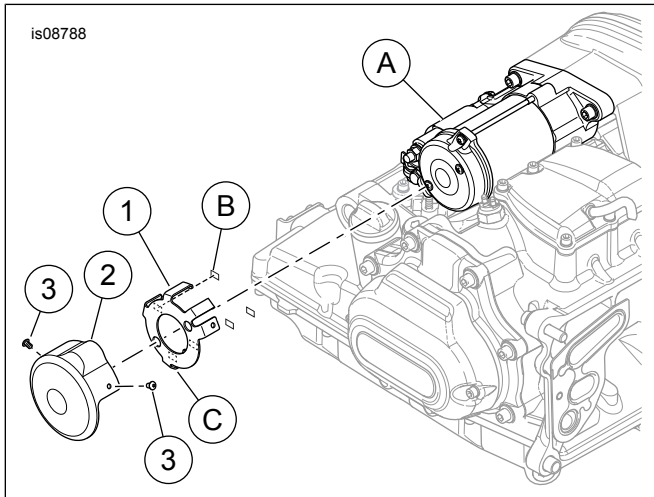

Figure 1. Service Parts, Touring Starter Cover
See Figure 1 and Table 1
1. See Figure 1. Remove three adhesive pad liners (C) from the inboard side of the cover mounting bracket (1).
2. Rotate the mounting bracket into approximate position, aligned with the starter motor (A) as shown.
3. Engage the lower tab (B) with the lower starter bolt lug. Rotate the bracket into position. Use a small pry bar to lift the tabs gently over the starter cap to prevent scratching.
4. Apply a few drops of Loctite 243 - Blue to the **clean** threads of the two button head screws (3).
5. Place the starter cover (2) over the cover mounting bracket, aligning the holes to the mounting tabs.